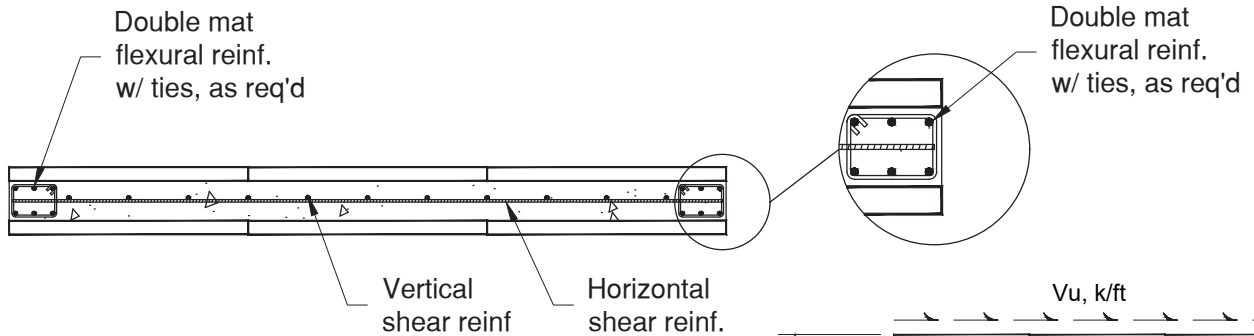
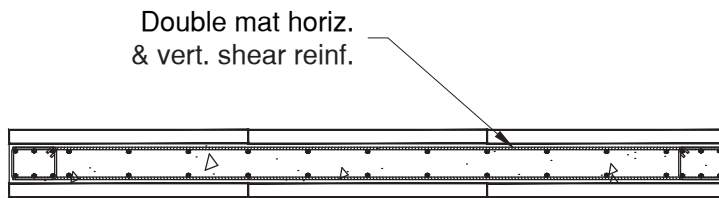

FIGURE 7: PLAN VIEW
FIGURE 8: PLAN VIEW
2. Provide double mat of reinforcement for 12" Element wall. See Figure 8.
3. Where more than one bar is shown use double mat for flexural reinforcement. See Figure 7 (or Figure 8 for 12" Element).